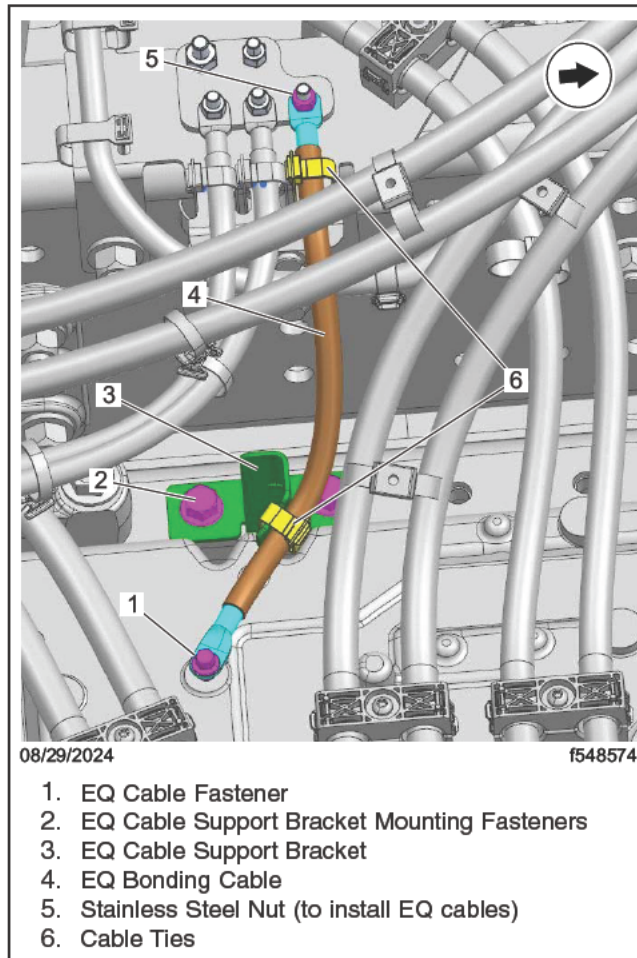
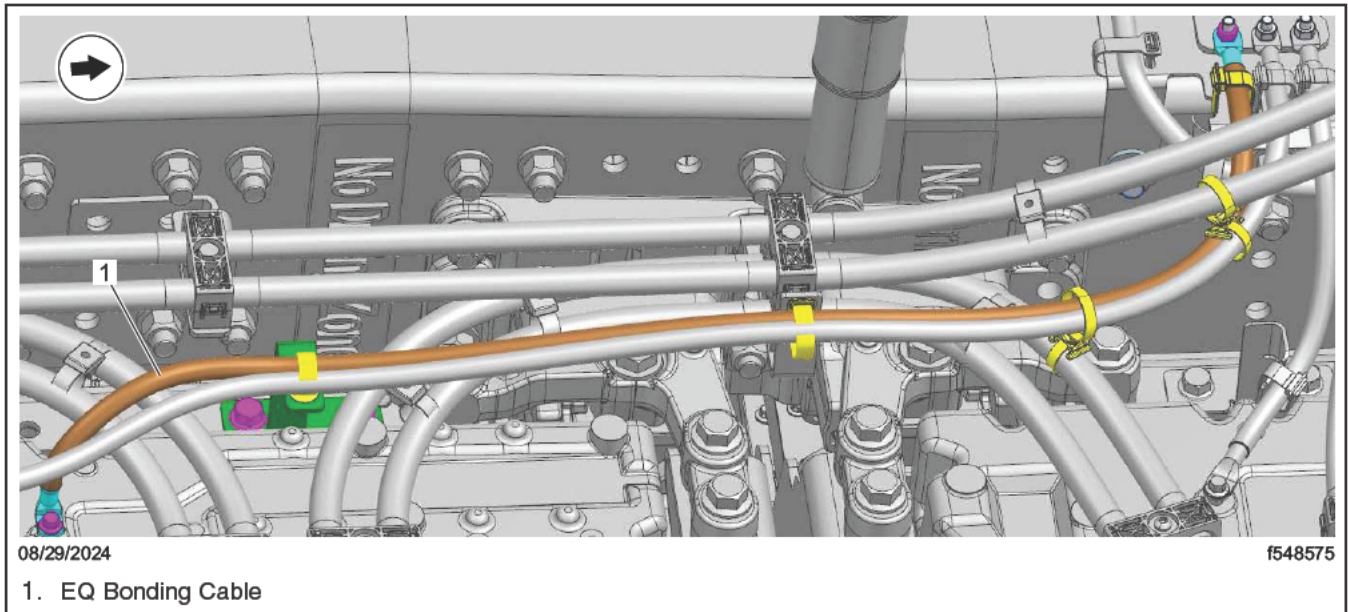
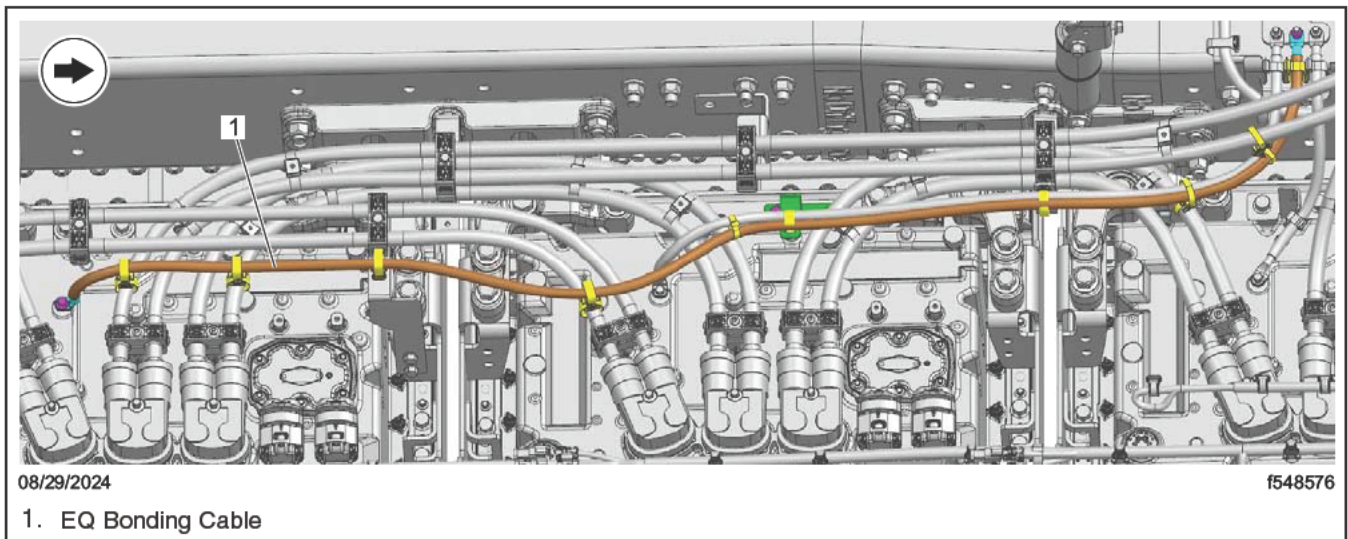
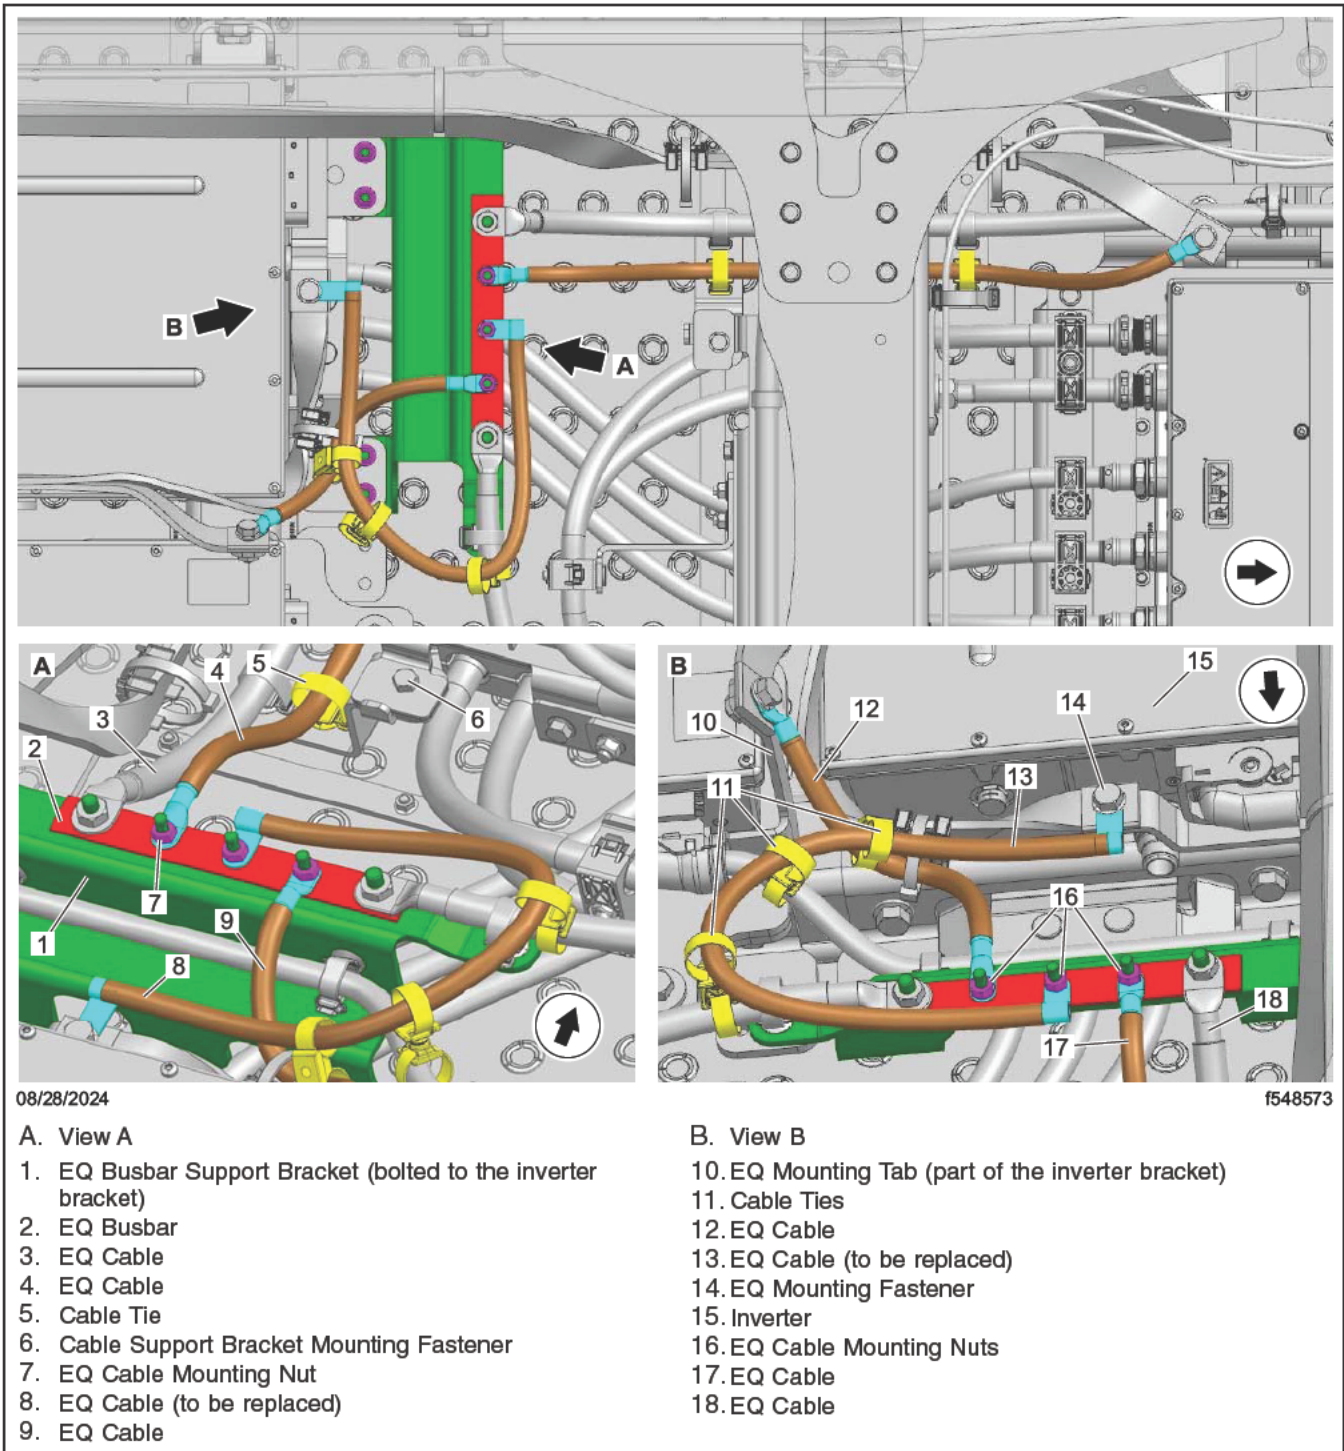

Fig. 5, Installation of New HV Cable Bracket
Fig. 6, Routing New EQ Cable
Fig. 7, Routing New EQ Cable
Fig. 8, Installation of New EQ Cable
22. Install the new HV cable bracket (66-34471-000) to the high voltage battery B1. See Fig. 5.
23. Route the new EQ cables (A66-26293-017, A66-26292-043, and A66-26292-075) to each HV battery, and loosely install the fasteners to keep the cables in place. See Fig. 5, Fig. 6, and Fig. 7.
24. Install the new EQ cable (A66-34437-022) with the new routing. See **Fig. 8**.
26. Use cable ties to secure the ground cables as shown in Fig. 5, Fig. 6, Fig. 7, and Fig. 8. Use cable ties to secure the LV harness and other ground cables attached to the new EQ ground bracket.
27. Tighten the EQ cable large stainless steel (SS) nut 26 lbf·ft (35 N·m).